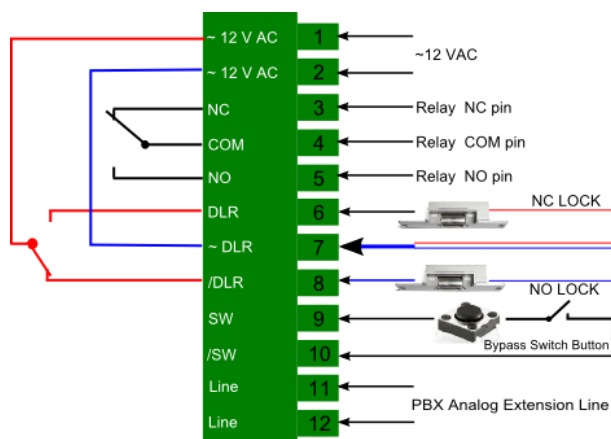

Figure 6-4 The SD-40X Model Door Phone wires connector
- The unit powers the door lock, provided it is powered by its internal relay's pins (See Figure 6-4)
1. Remove the keypad panel cover from the Door Phone unit and find wire connectors at the PCB module. (See Figure 6-4)
The Door phone supports a bypass switch installation. This allows the door opening with a hardwired switch button. A bypass switch button should be connected to the SW and /SW terminals. (See Figure 6-4)